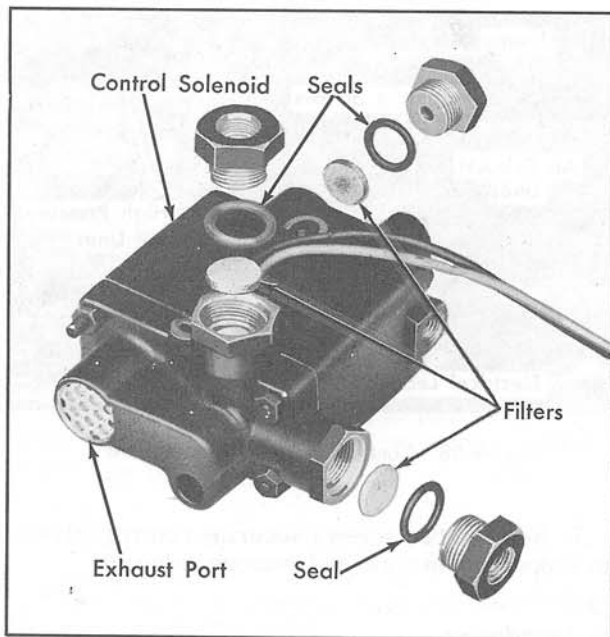

Fig. 4-19 Control Solenoid Filters
The control solenoid contains three pourex filters to prevent foreign particles in the air lines from entering the unit. They are located in the high pressure air line fitting at the top left side of the unit and in the two exhaust line fittings at the lower right front and bottom of the unit, Fig. 4-19.
6. Remove air line fittings from control solenoid where air lines were previously disconnected and lift out pourex filters, Fig. 4-19.